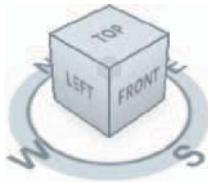

Fig. 12.15 Second example – new position of the ViewCube
3. Drag the **ViewCube** to a new view as shown in Fig. 12.15.